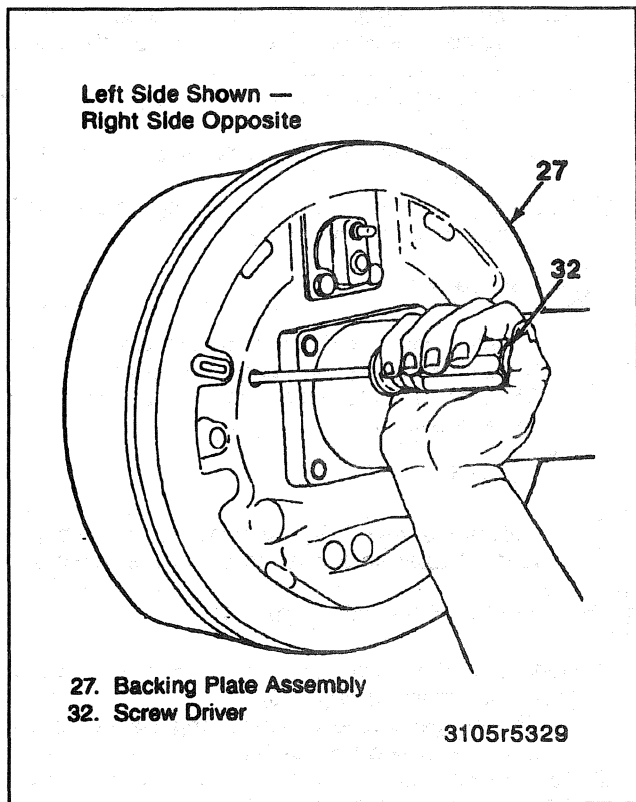

Figure 2—Pushing the Parking Brake Lever Off It's Stop
- C. Remove the access hole plug (25) from the backing plate and insert a screwdriver through the hole to push the parking brake lever off its stop (Figure 2).
6. Actuator spring (1) and adjuster actuator (3).
- A. Raise the lever arm of the actuator (3) until the upper end is clear of the slot in the adjuster screw (12) (Figures 2 and 3).
- B. Slide the actuator (3) off of the adjuster pin (28).
- C. Disconnect the actuator spring (1) from the shoe (7).
7. Hold-down spring assemblies (5) and pins (6).
8. Lower return spring (4).
- B. Lift the lower return spring (4) over the anchor plate.
9. Shoe and lining assemblies (7 and 8) along with the upper return spring (2) and adjusting screw assembly.